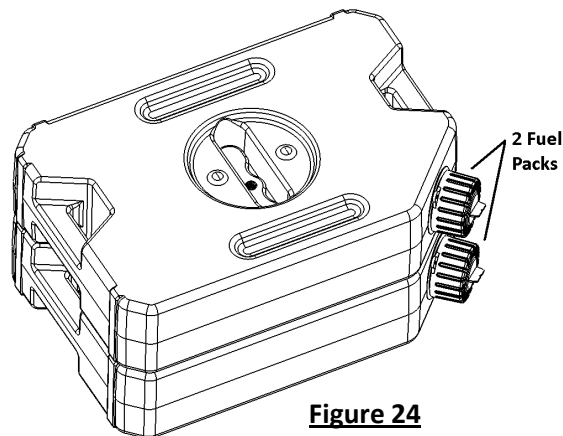

Figure 24
Step 2 - Mount another Fuel Pack onto the extension handle (see **Figure 24**).